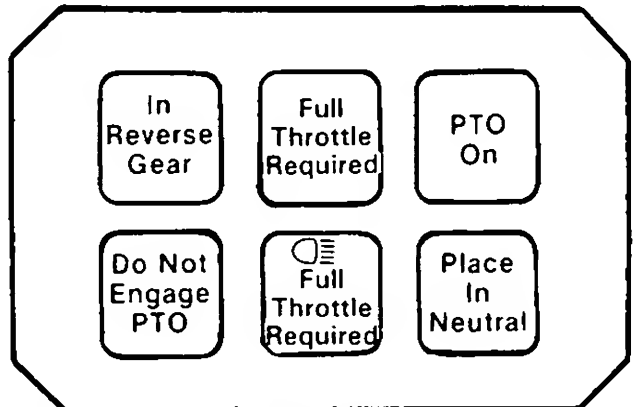

Figure 4
B. ELECTRONIC MONITOR (Refer to Figure 4)